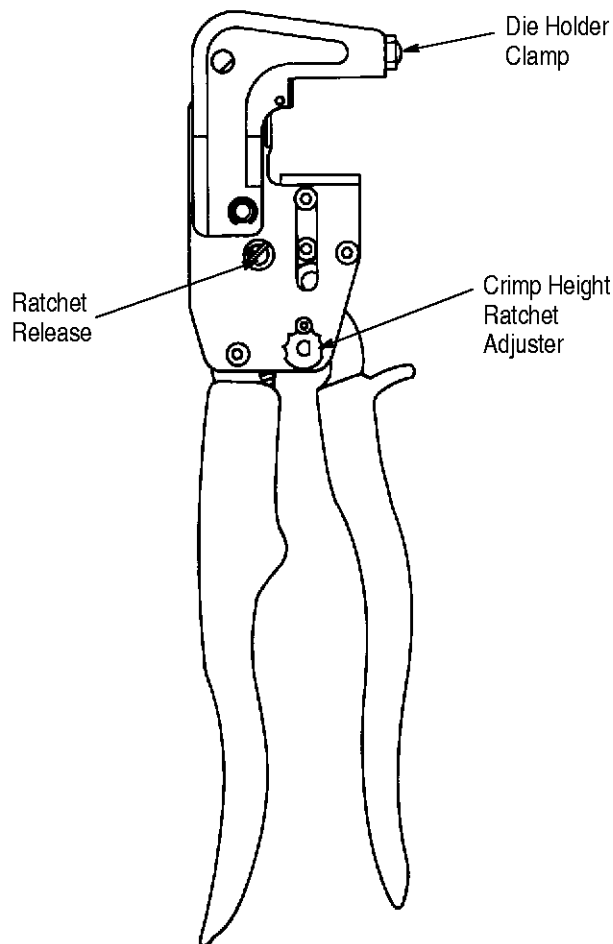

Figure 1
### 2. DESCRIPTION (Figure 1)
*In the event that a connector is positioned incorrectly in the die assembly, or if a wrong die assembly was selected, open tool handles by squeezing tool handles slightly and turning ratchet release counterclockwise (see arrow in Figure 1).*